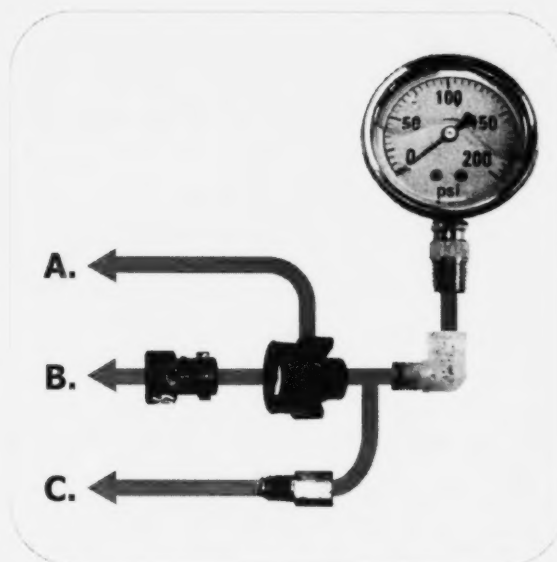

Figure 3. Three methods to attach a pressure gauge to an airblast boom:
- Install an oil-filled pressure gauge in the last nozzle position of one of the two booms. If necessary, remove the nozzle body for this step. Get fittings to match the thread or nozzle body (see Figure 3 for examples). Use four wraps of plumber's tape to ensure a water-tight connection.